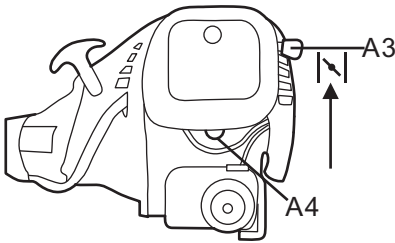

Fig. 12b
3. Move the choke lever (A3) to the position |↗|. (See Fig. 12b)